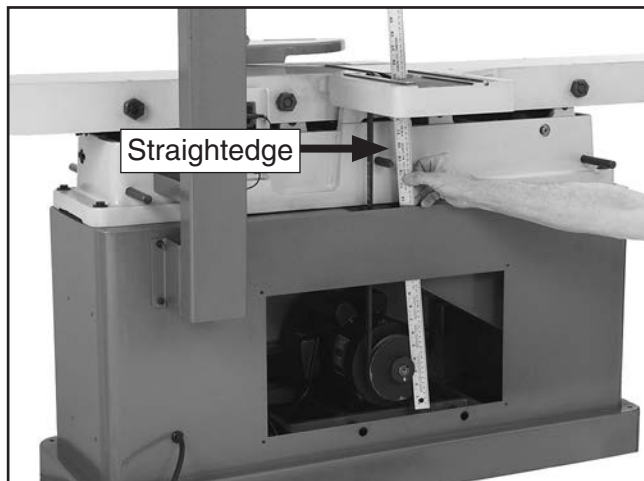
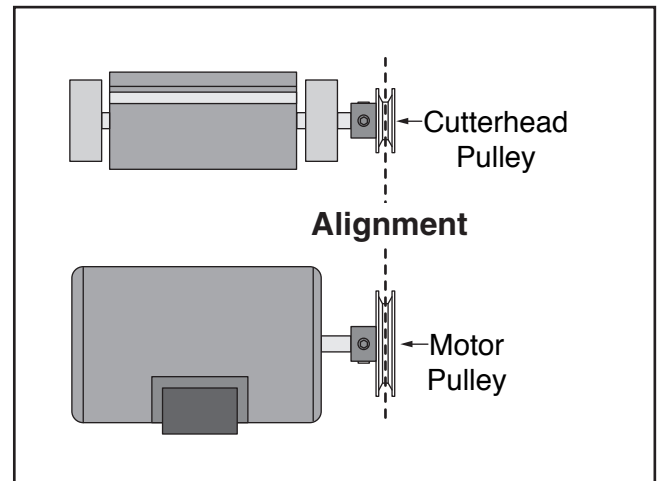

Figure 69. Checking belt alignment.
Figure 70. Pulleys aligned.
3. Place a straightedge against both pulleys (**Figure 69**) and check to make sure that they are aligned and that the V-belt is straight up and down (see **Figure 70**).
6. Tighten the motor mount fasteners. The V-belt should be parallel and aligned as shown in **Figure 70**.